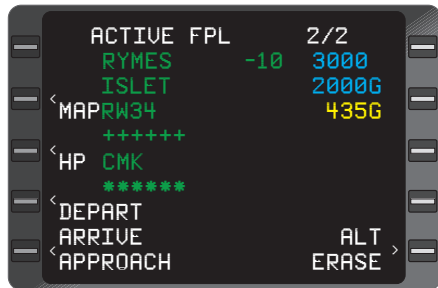

Figure 2-14
- **HP (Holding Pattern):** indicates a holding pattern is programmed at a particular waypoint. (Figure 2-14)
*NOTE: When a "fence" (+++++) appears in an Approach it separates the missed approach holding fix from the rest of the approach. (Figure 2-14) No Auto Leg change will occur to waypoints beyond the fence.*